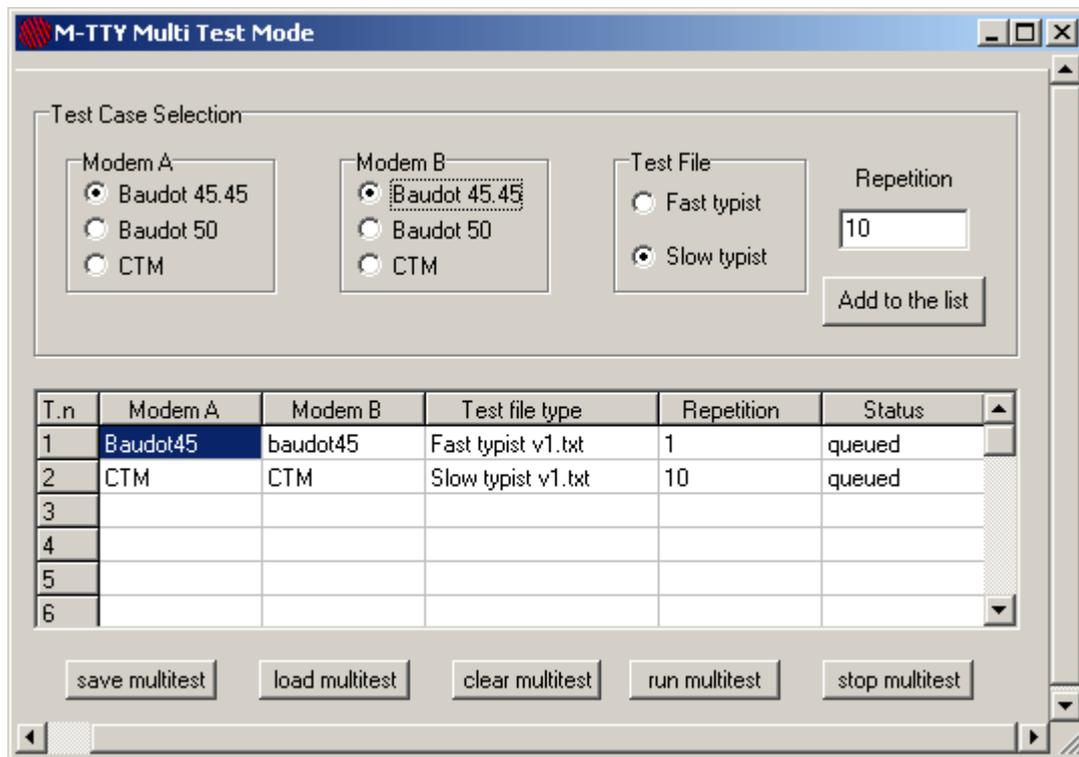

Figure 14: Multi-test window with example test cases
Figure 14 below shows two example test cases: (1) Baudot 45.45 to Baudot 45.45 connection for 1 repetition using the Fast typist file; and (2) CTM to CTM connection for 10 repetitions using the Slow typist file.
This example script corresponds to the two test cases shown in Figure 14.